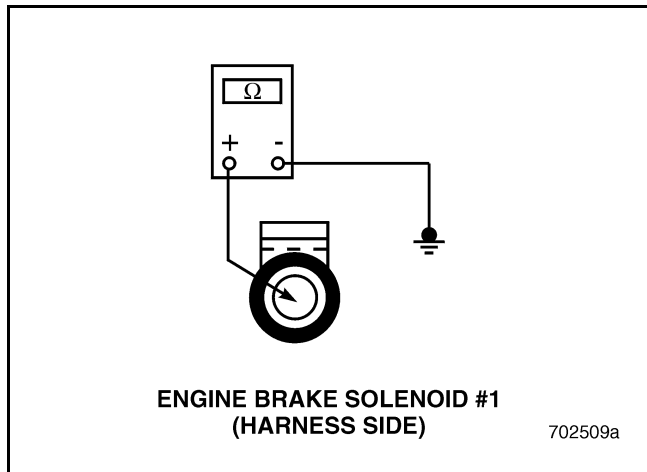

Figure 419
3. Check for continuity between the terminal of Engine Brake Solenoid #1 and a good ground (see Figure 419).